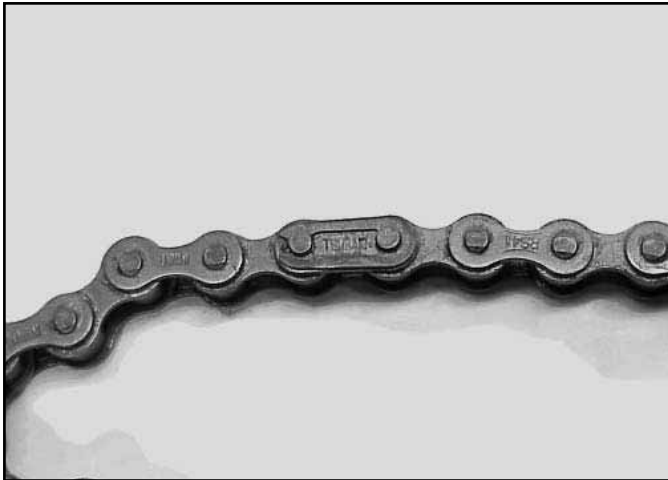

Fig 153
6. Before mounting the friction wheel assembly, install the chains onto the 8-tooth sprockets making sure the closed end of the master link is going in the direction of rotation in the forward gears (Fig. 153 and 154).